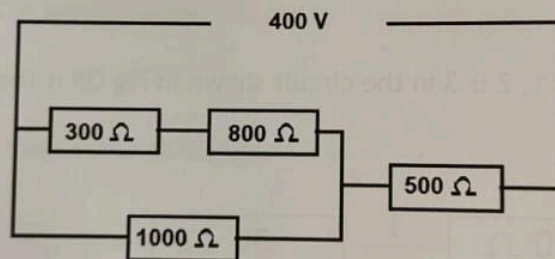

Fig Q10
9. (a) State Lenz's Law. (2)
- (b) A conductor with an effective length of 250 mm creates a magnetic flux  $480 \mu\text{Wb}$  when carrying a current of 45 A at right angles to a magnetic field. The force on the conductor is 48 N. (6)
10. (a) A copper conductor 80 m long has a cross sectional area of  $2.5 \text{ mm}^2$ . If the resistivity of copper is  $1.77 \times 10^{-8} \Omega\text{m}$  calculate the resistance of the conductor. (2)
- (b) The circuit shown in Fig Q10 has a 250 V d.c. supply. Determine EACH of the following:
- (i) the total resistance of the circuit; (2)
- (ii) the total current supplied; (1)
- (iii) the volt drop across the  $800 \Omega$  resistor. (3)